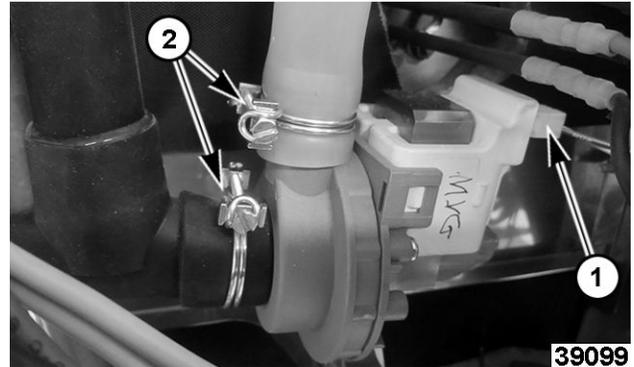

Fig. 53
2. Note and disconnect wiring connectors (1, Fig. 53).
3. Note and disconnect hoses (2, Fig. 53).